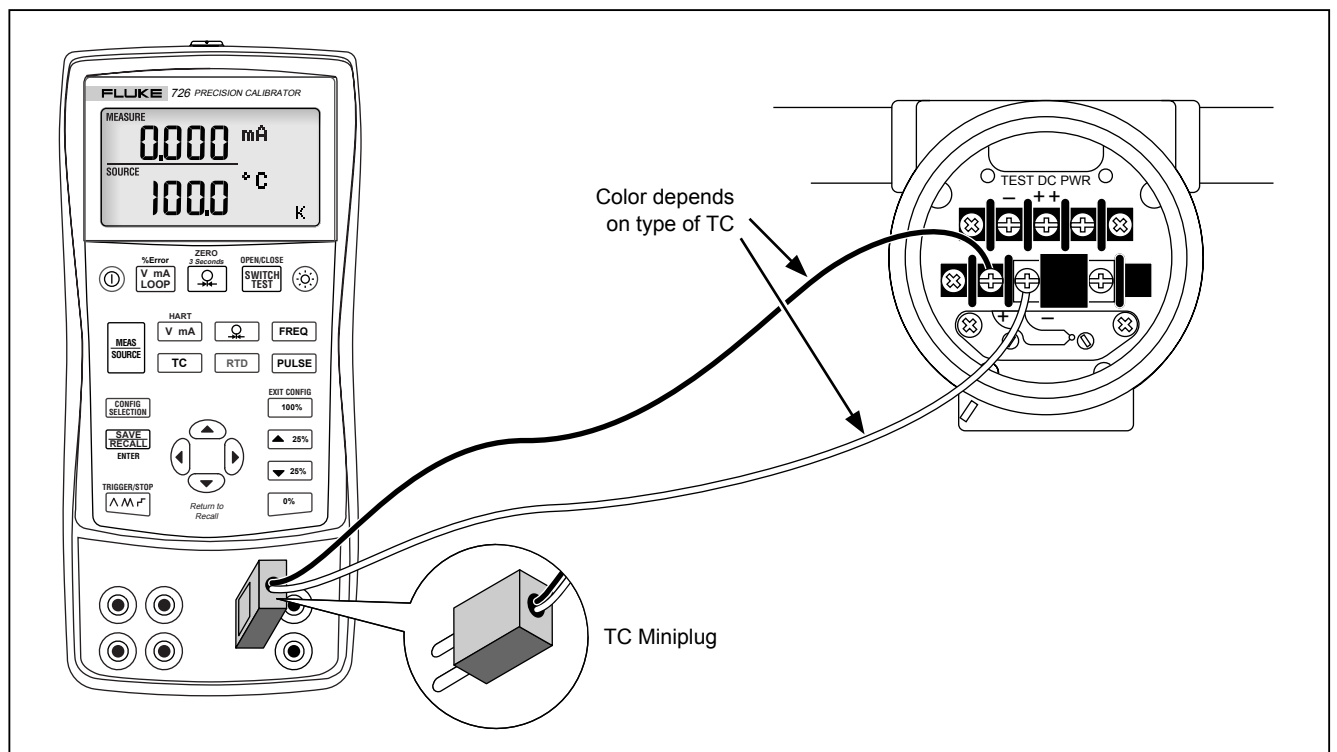

Figure 16. Connections for Simulating a Thermocouple
Figure 16 shows this connection. Proceed as follows to simulate a thermocouple:
1. Attach the thermocouple leads to the appropriate TC miniplug, then to the TC input/output as shown in Figure 16.